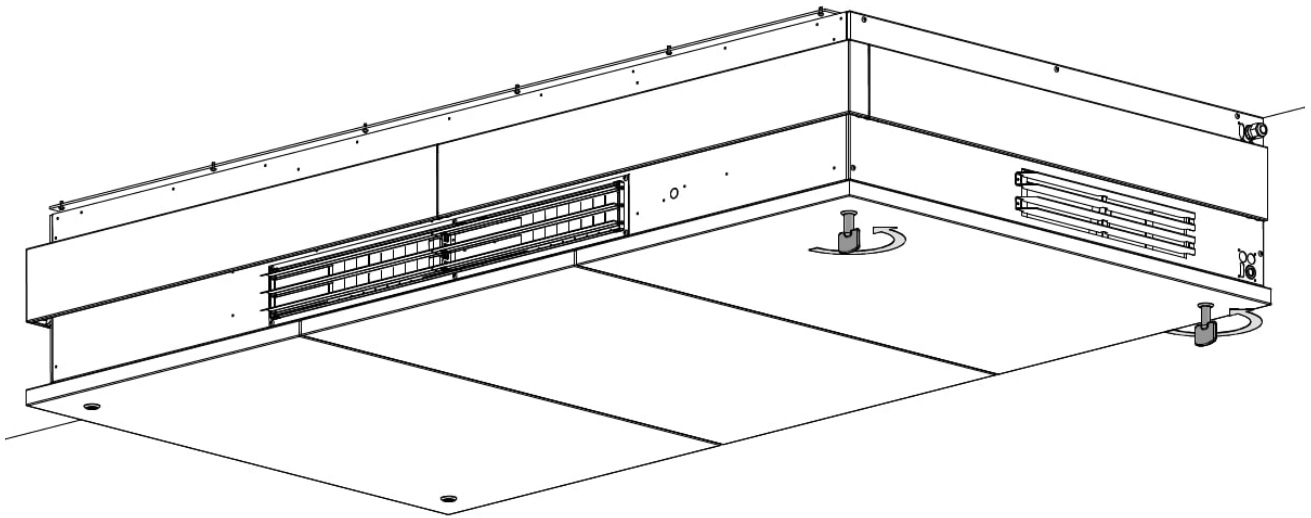

Figure 34: Close the service cover
10. Close the service cover, see Figure 34.